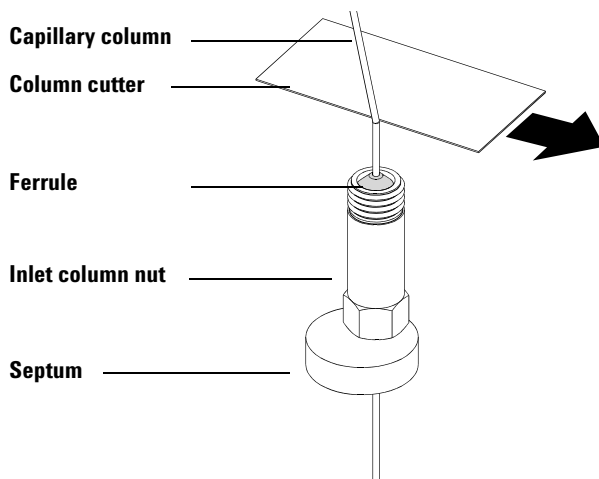

Figure 2 Preparing a capillary column for installation (standard inlet column nut shown)
- 2 Wearing clean gloves, slide a septum, column nut, and conditioned ferrule onto the free end of the column. **Figure 2** shows a traditional inlet column nut but the nut is similarly positioned for a self tightening column nut.